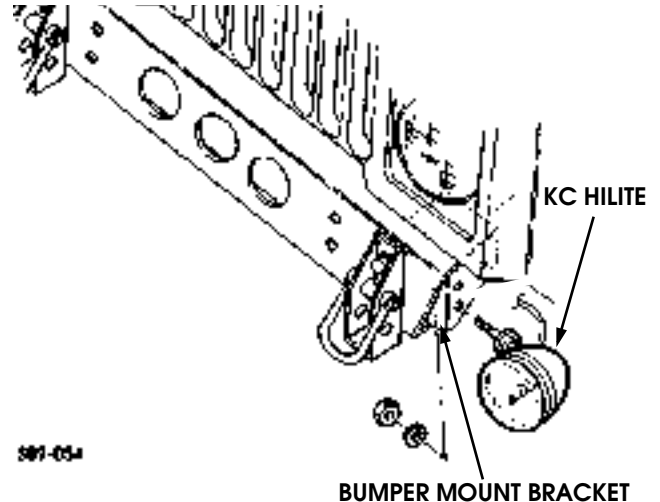

Figure 13-66: Light Mounting Point
1. Begin by mounting your HID lights to the front bumper mount brackets on each side of the vehicle. The lights are labeled “*driver*” and “*passenger*” which will orient the ceramic cover on the bulb downward. Use of the front lower hole in the bumper mount bracket should afford ample clearance to the hood and brush guard (Figure 13-66). Assure the steering stops are adjusted correctly to maintain adequate clearance between the tires and the lights. Suspension deflection during off-road driving will affect this clearance.